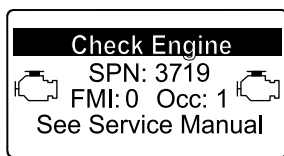

Figura 69
- Engine warning (Avertisment motor) SPN 3719, FMI 0 (Figura 69)